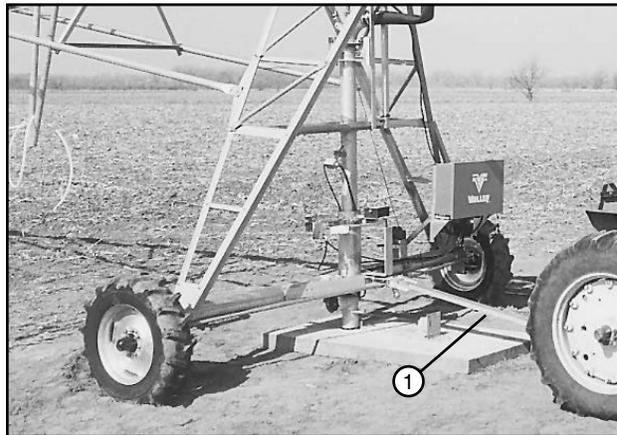

Figure 50-1 1. Tongue
12. Attach the tongue to the towing unit. See Figure 50-1.